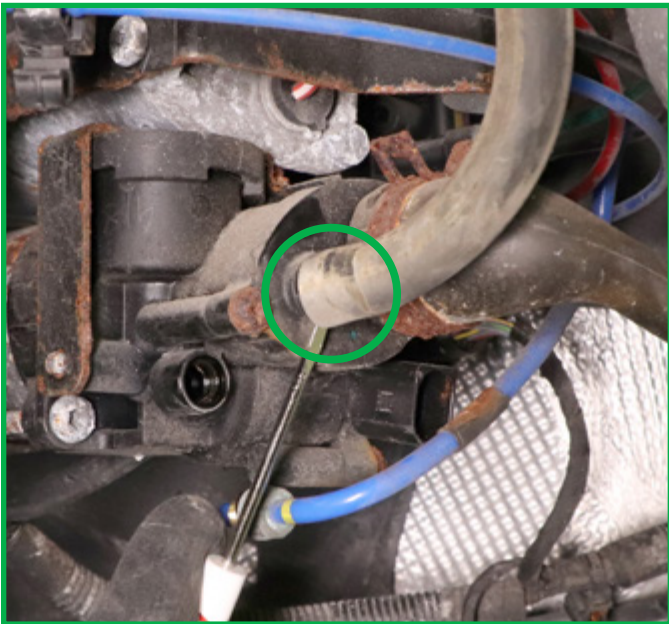

FIGURE 12
7. Disconnect the intake line. (Figures 12, 13)